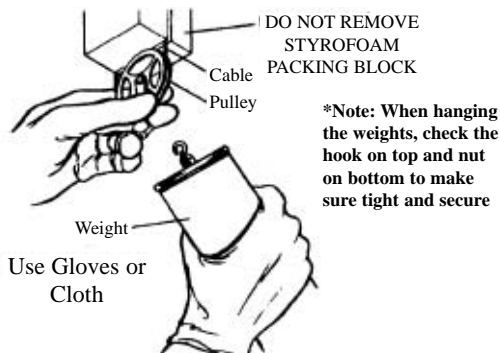

Figure 5: CABLE DRIVEN MOVEMENTS
(Figure 5 & 6)
**DO NOT REMOVE THE STYROFOAM PACKING BETWEEN THE PULLEYS AND THE CABLE DRUM ON THE CABLE DRIVE MOVEMENTS. (SEE FIGURE 5 TO IDENTIFY THE CABLE VERSION. SEE FIGURE 6 TO IDENTIFY THE CHAIN VERSION.)**